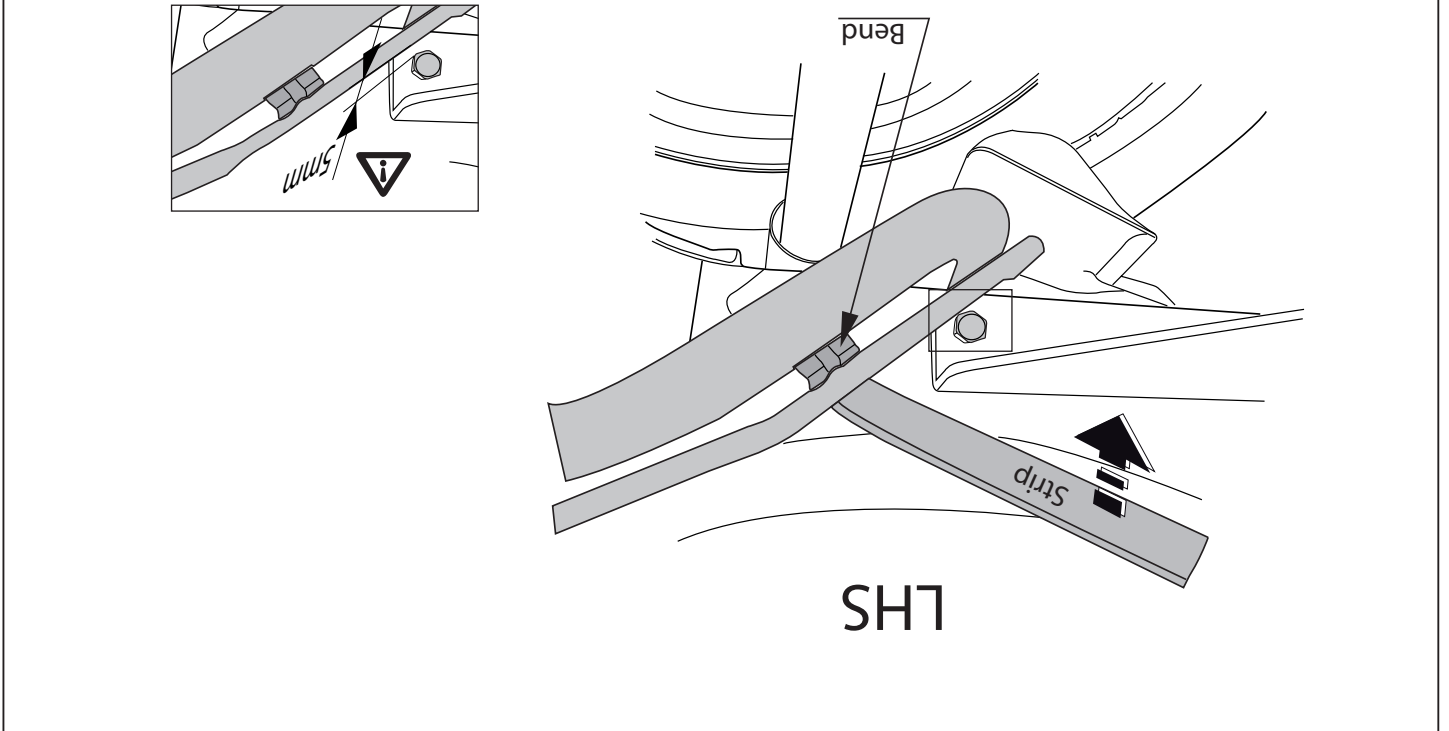

Fig.5
tingsleiding om, zie fig. 5.
- 28 **Bend the suspension bracket for the fuel filler pipe and bleeder pipe, see fig. 5.**